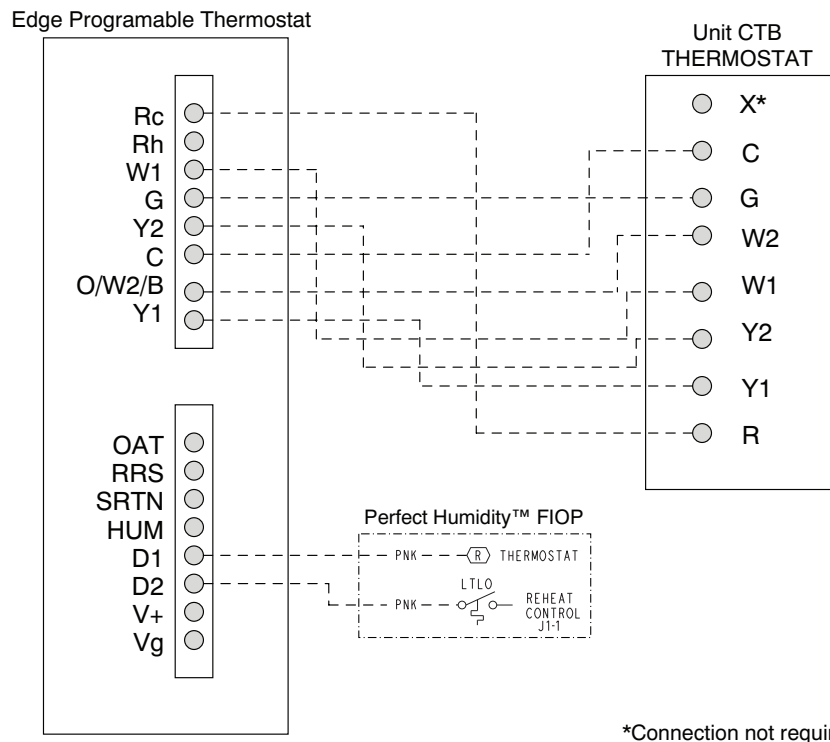

Fig. 34 - 558J*07G (unit with Perfect Humidity Dehumidification System) with Edge Programmable Thermostat
3. The Edge Programmable Thermostat has dry contacts at terminals D1 and D2 for dehumidification operation (see Fig. 34). The dry contacts must be wired between CTB terminal R and the PINK lead to the LTLO switch with field-supplied wire nuts. Refer to the installation instructions included with the Bryant Edge Programmable Thermidistat device for more information.